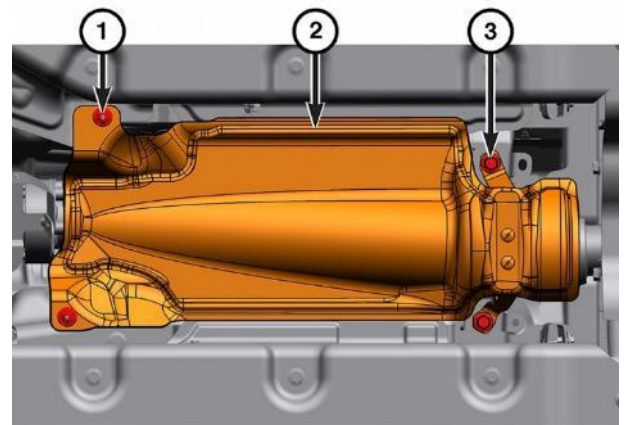

Figure 37 – Center Heat Shield
17. Remove the center heat shield nuts, center heat shield to center support bearing bolts, and the center heat shield (Figure 37).